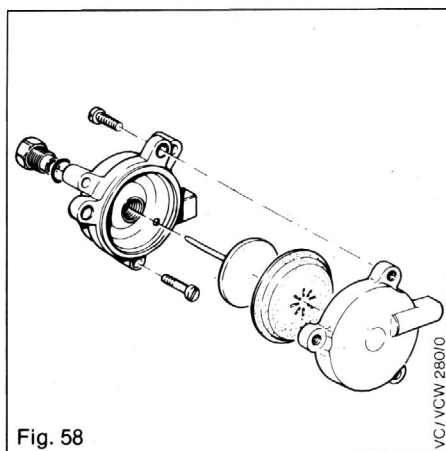

Fig. 58
Note connections of the two control lines to the differential valve. Note the connections of the other ends of these control lines. Remove clamp (C) by sliding sideways. The control lines are a push fit into the differential valve. (Disconnect connections at the other ends of the control lines to gain movement as necessary. Ensure all connections are noted to assist reassembly). Unscrew the three retaining screws (RS). Dismantle differential valve and clean (fig. 58).